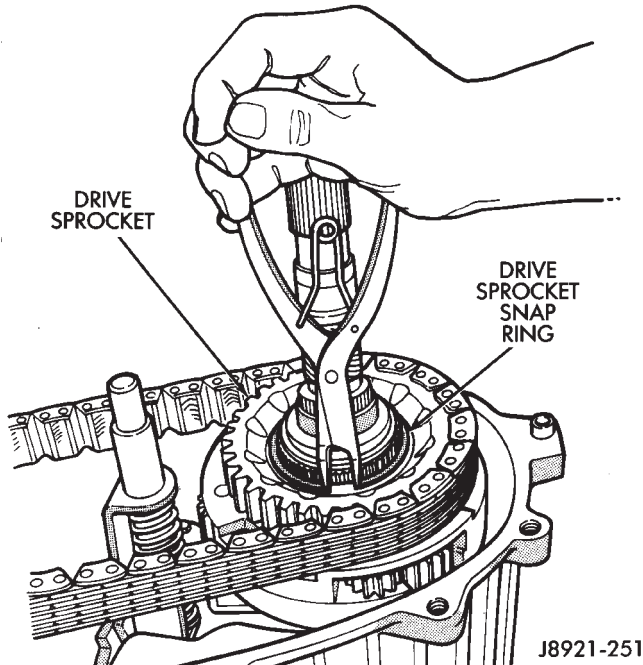

Fig. 23 Drive Sprocket Snap-Ring Removal
- (1) Remove drive sprocket snap-ring (Fig. 23).